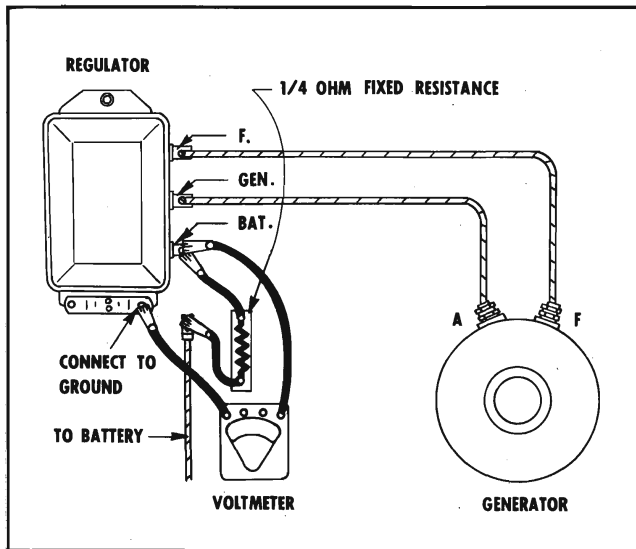

Fig. 11-36 Testing Single Contact Voltage Regulator
1. Connect a $\frac{1}{4}$ ohm fixed resistor (approximately 25 watts capacity) into the charging circuit at the "BAT" terminal of the regulator and connect a voltmeter from the "BAT" terminal to ground (Fig. 11-36).